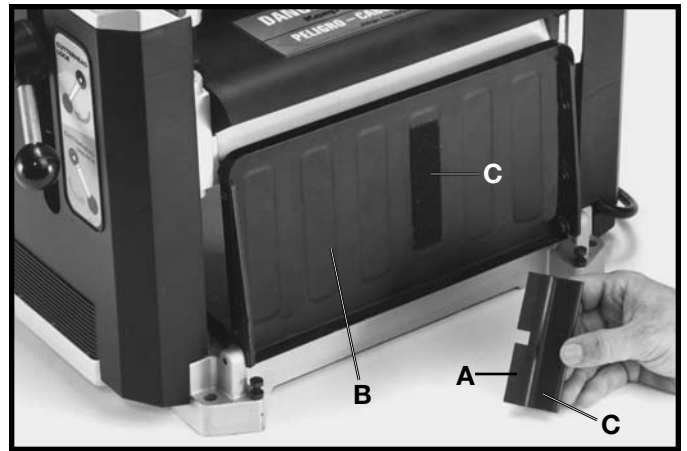

Fig. 20
1. The knife transfer tool (A) Fig. 20, supplied with your planer, can easily be stored underneath the outfeed table extension (B) when not being used. A Velcro strip (C) is provided on the tool and underneath the table for this purpose.